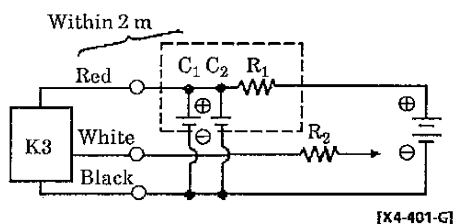

Fig. 7
- Install some protective circuit as per illustrated in Fig. 5 or 6 (in case of model K2) and Fig 7 (in case of model K3) when length of lead wire is over than 10m.